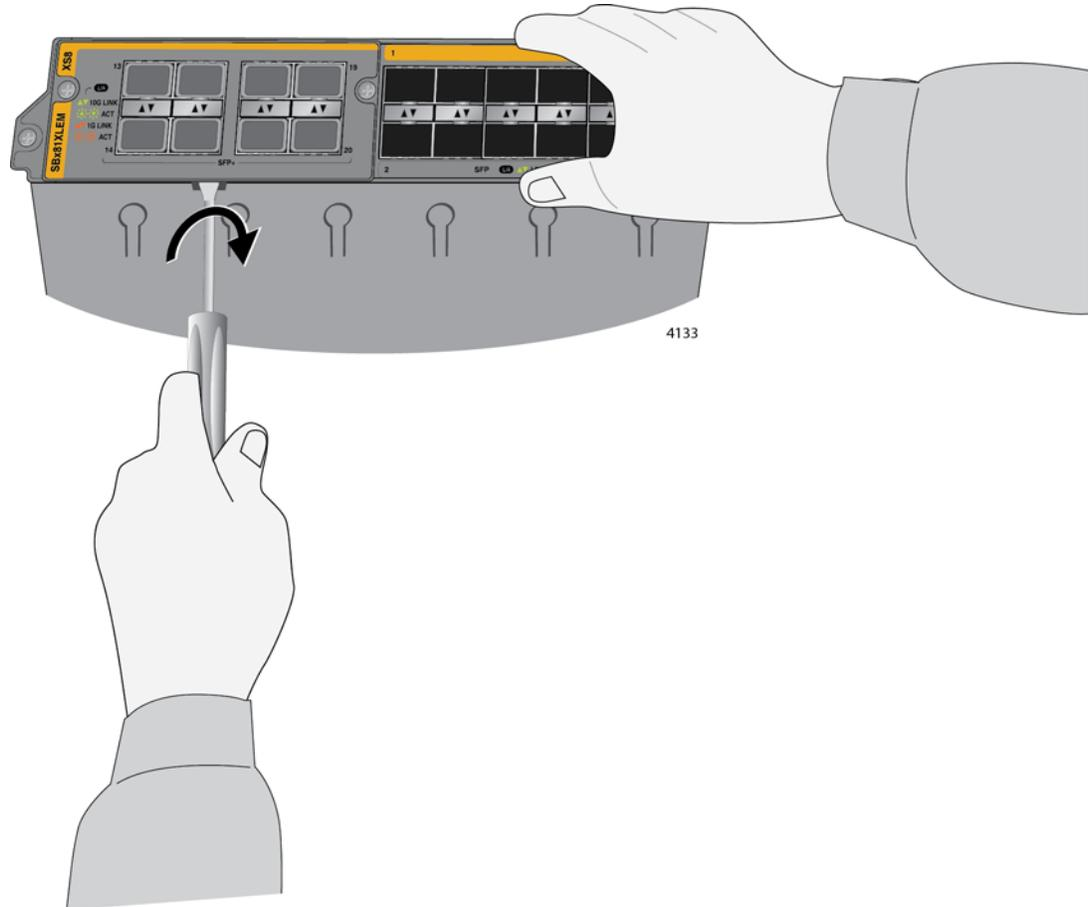

Figure 163. Disconnecting the Expansion Module from the AT-SBx81XLEM Line Card
5. Lift the front of the line card and carefully insert the tip of a flathead screwdriver into the slot on the bottom panel of the expansion module. Gently twist the screwdriver to disconnect the module from the connector in the line card. Refer to Figure 163.